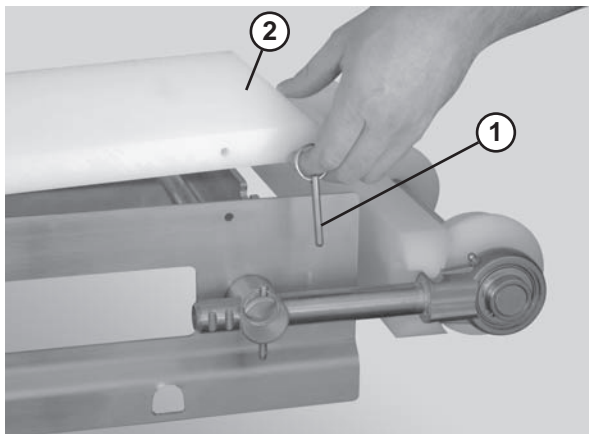

Figure 51
1. Remove the pull pins (**Figure 51, item 1**) that connect the guide (**Figure 51, item 2**) to the frame.